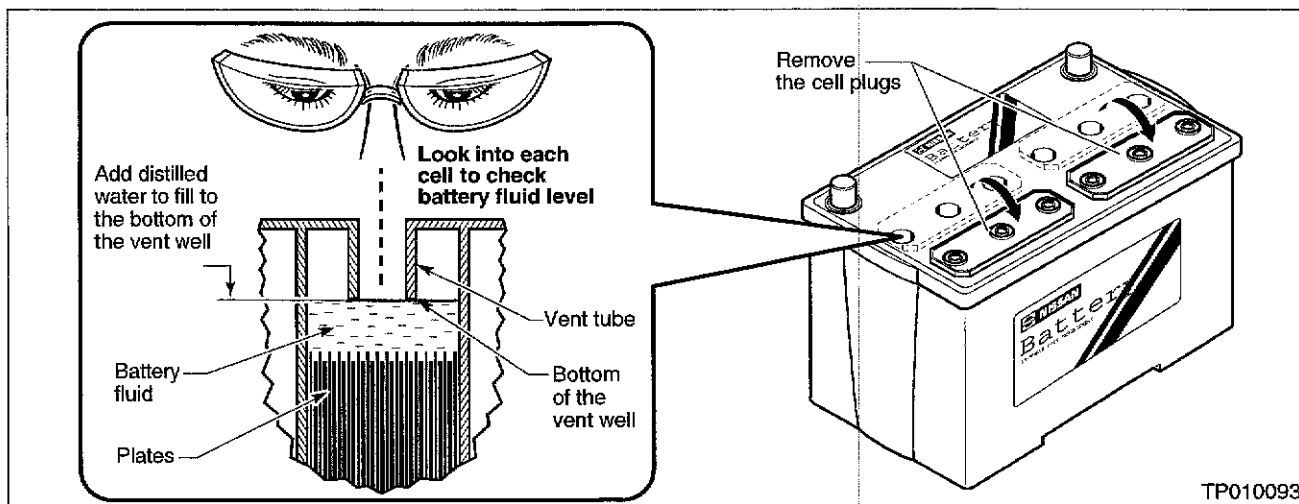

Figure 1
- 2) Look into each individual cell and verify that the electrolyte covers the lead plates in the battery and is no higher than the bottom of the vent well (see Figure 1).